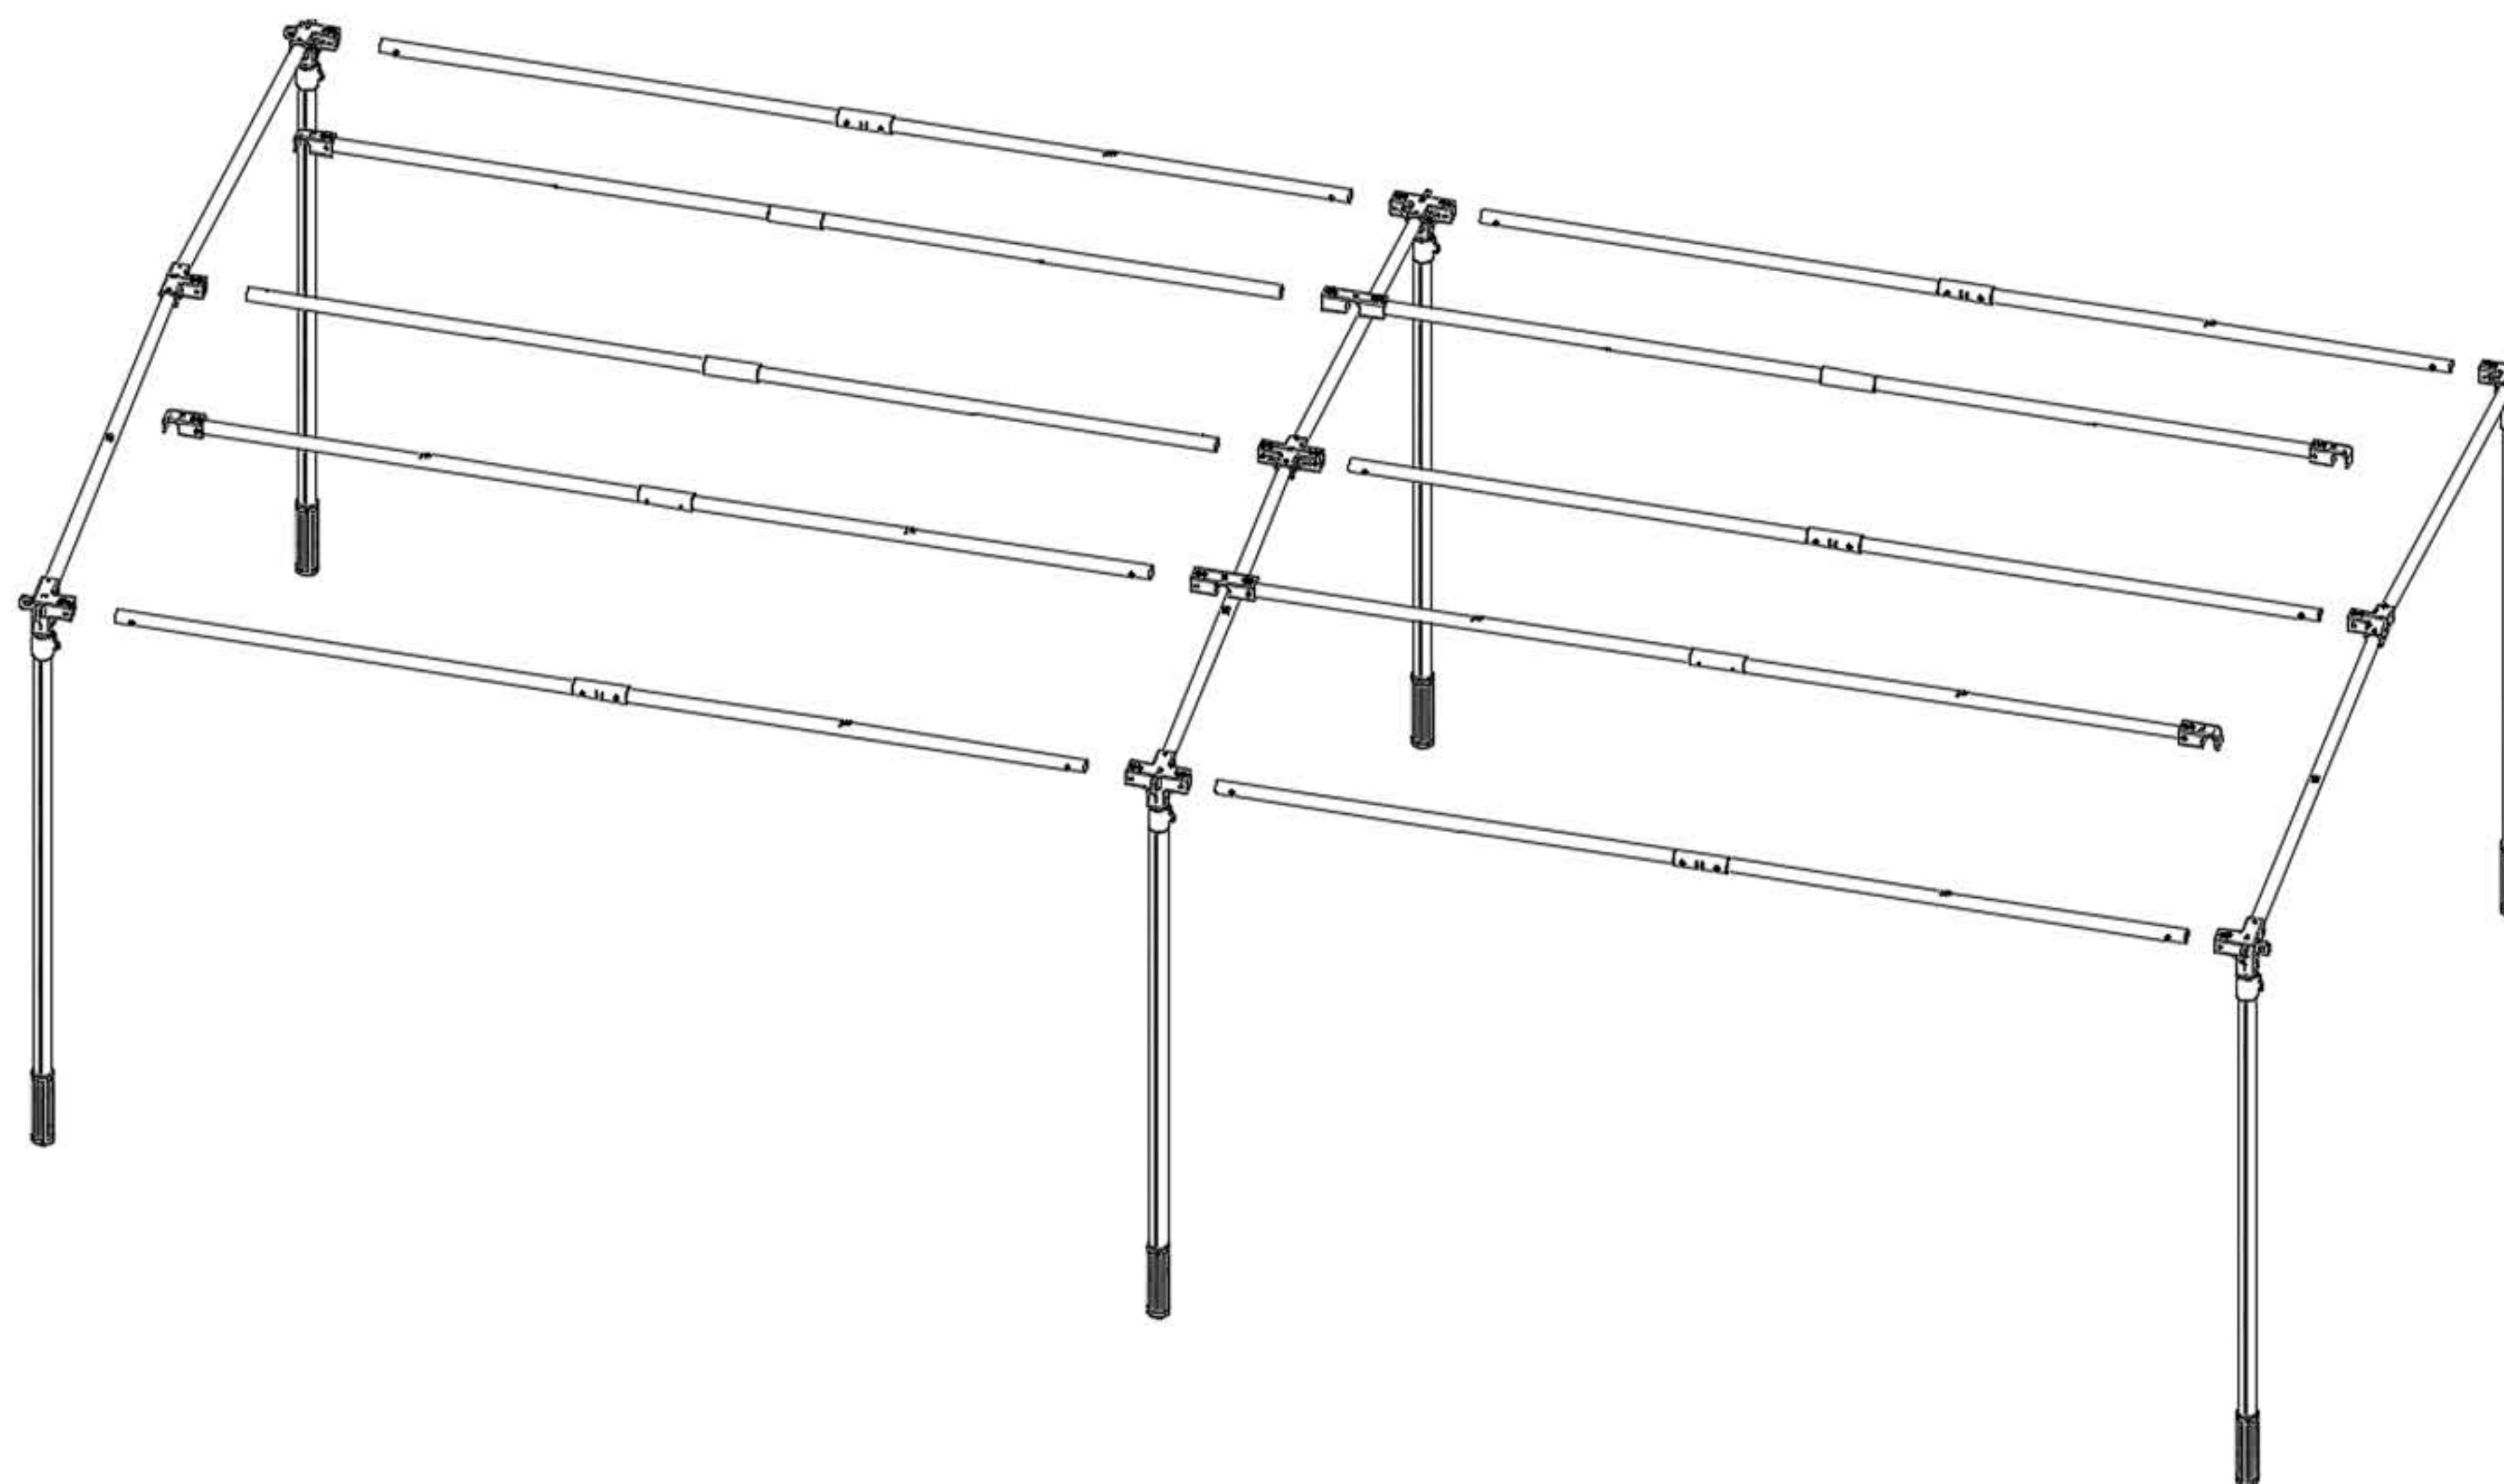

Figure 2 - Assembly diagram
- Assemble components 2.1 to 2.6 in sequence according to Figure 2.